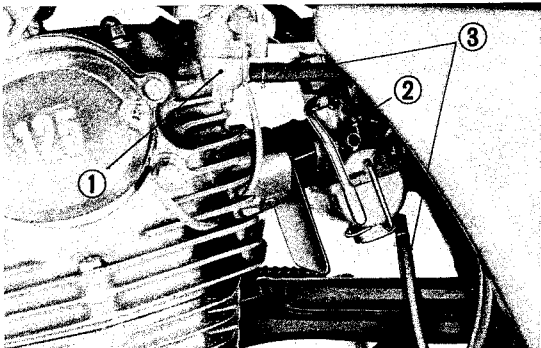

Fig. 7 ① Fuel cock ② Carburetor ③ Fuel pipe
- 1) Refer to page 9. (Fig. 7)